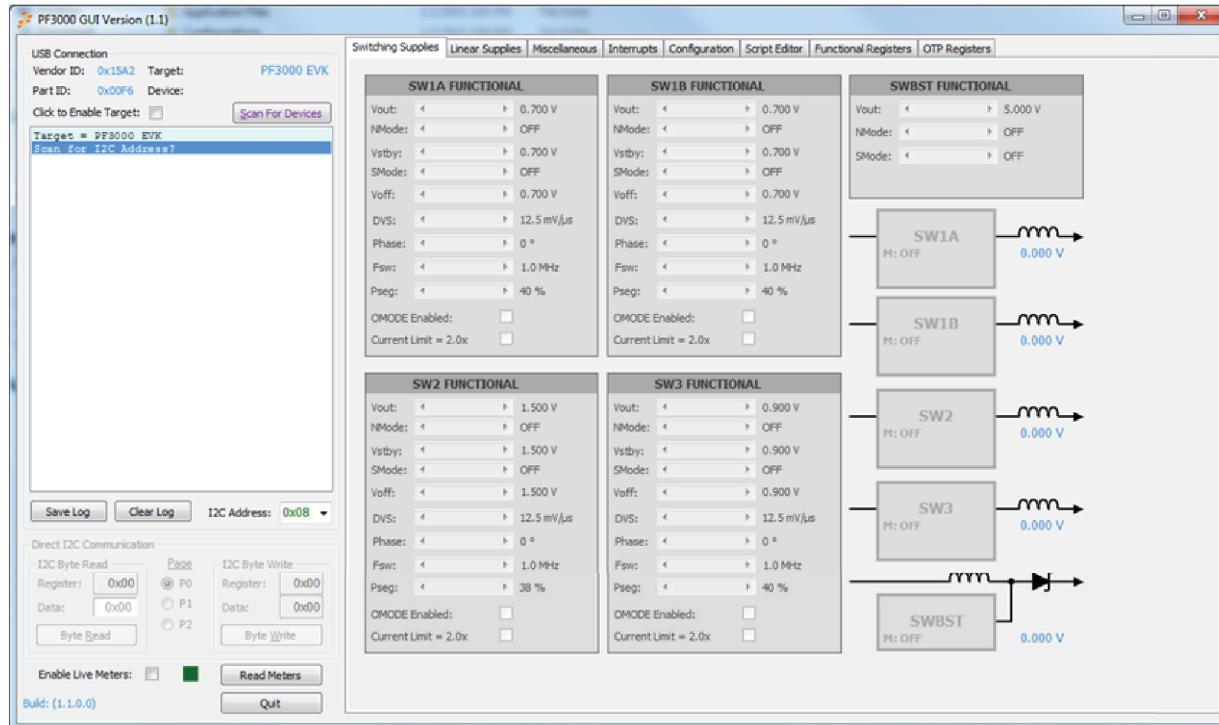

Figure 5. Installation Confirmation
4. The GUI installation is complete and the window shown in Figure 5 appears. Do not click on anything until the board is plugged in.